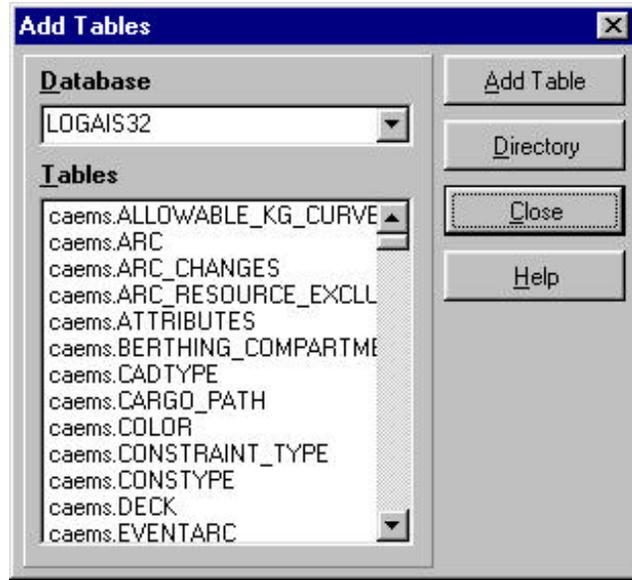

Figure 6.
Step 1: To add a table to your report click the Add Tables icon or select Edit, Add Tables from the drop down menu. A window will appear listing all tables available. (see Figure 6.)